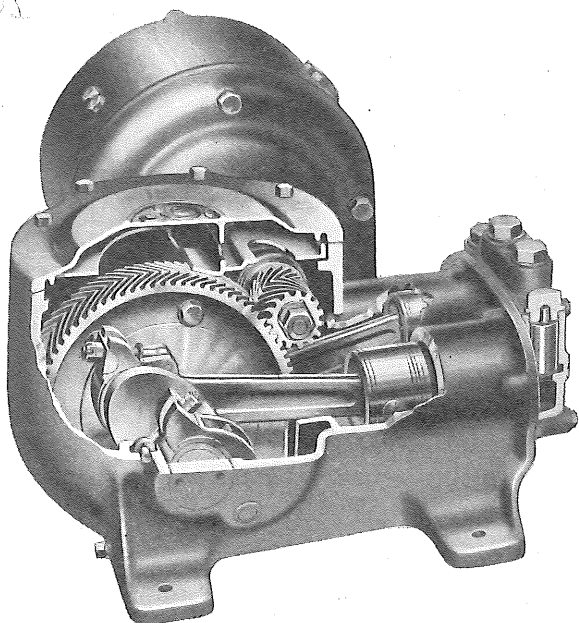

Fig. 10. Interior of Air Compressor
7. Uncouple the connecting rod of one piston at the crank shaft (Fig. 10). Turn the crank shaft by means of the armature until the connecting rod can be lowered to the bottom of the crank chamber. Turn the hinge bolt until it rests along the top of the connecting rod.
12. Loosen the nuts and turn back the hinge bolts and bearing caps of the crank shaft (Fig. 10). Lift out the crank shaft and gear with the crank-shaft linings.